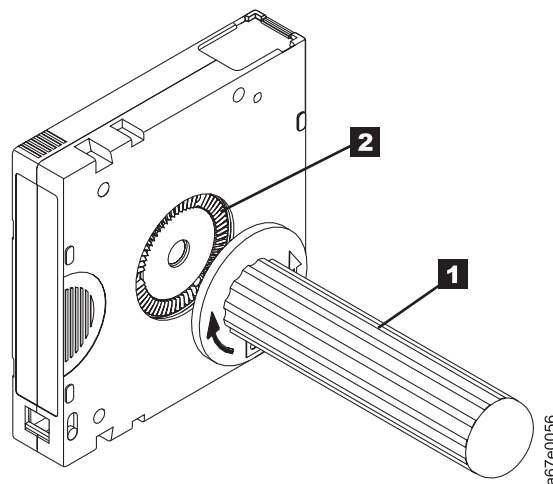

Figure 53. Rewinding the tape into the cartridge
5. To rewind the tape, insert the cartridge manual rewind tool ( **1** in Figure 53) into the cartridge's hub **2** and turn it clockwise until the tape becomes taut.